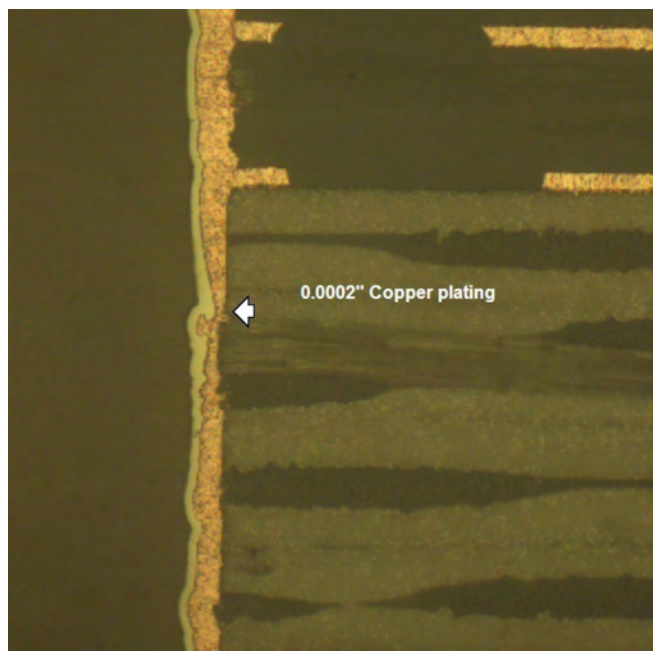

Figure 1: Inadequate leveling leading to thin plating in the PTH (Source: IPC, Bannockburn, Illinois).
- Poor leveling leading to thin areas of copper plating (Figure 1)